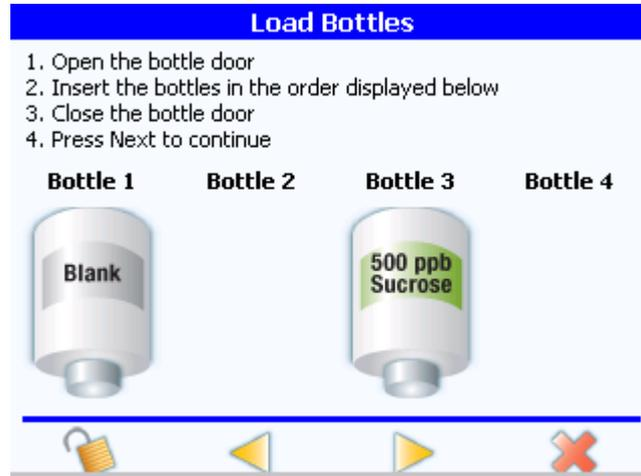

Figure 6-18 Load bottles dialog box, TOC validation
- 7) Install the standards bottles following the instructions as shown in the load bottles dialog box and ensuring that you place the standards bottles in the correct positions. See Figure 6-18. The default setting is a blank bottle and one standard of 500 ppb sucrose. You may perform multipoint validation by selecting the custom settings and defining the desired configuration. At least one bottle must be selected. From left: